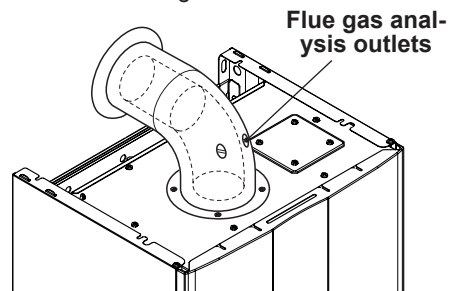

Figure 9.9
- Connect a flue analyser to the flue gas analysis outlets on the flue gas exhaust on the boiler Figure 9.9.
- Check the boiler combustion using the outlets located on the flue pipes (Figure 9.9) and compare the data measured with the following.